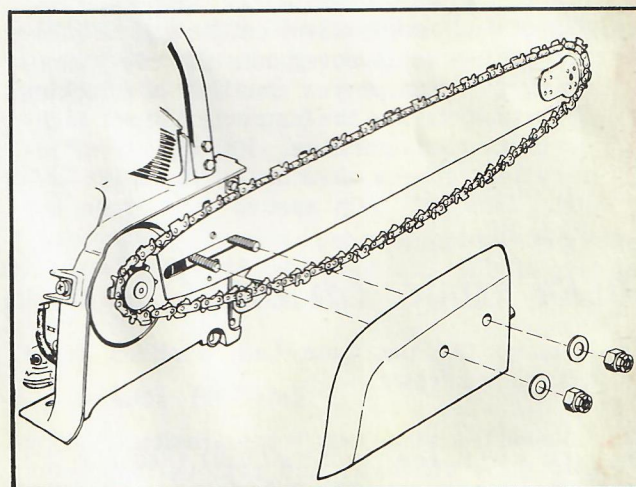

Figure 4. Removing Sprocket Cover
1. Remove the two nuts and washers shown in Figure 4. Then remove sprocket cover.